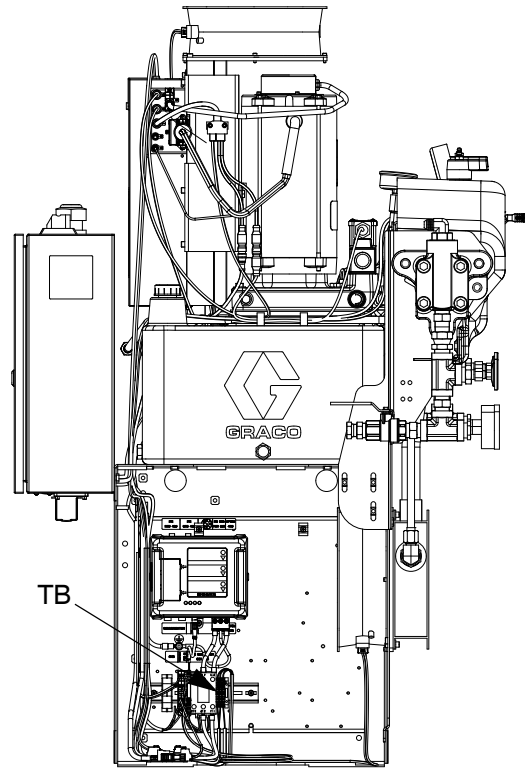

FIG. 16
3. Move the existing terminal stop block located inside the HFR base cube and install the terminal blocks included with kit 24K659 (TB). See FIG. 16. Reinstall the terminal stop block.